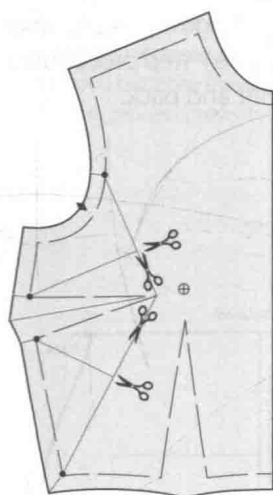

FIGURE 6.31d
5. Cut (slash) the pattern along the established guidelines to, but not through, the stitching line (see Figure 6.31d).